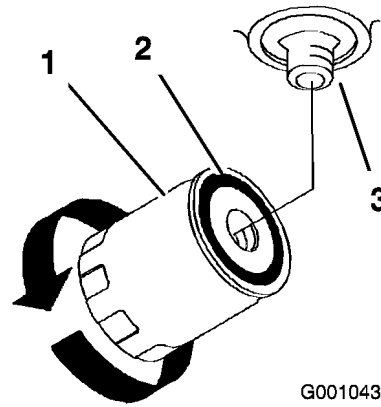

Figure 39
3. Apply a thin coat of new oil to the rubber gasket on the replacement filter (Figure 39).
4. Install replacement hydraulic filter onto the filter adapter. Turn the oil filter clockwise until the rubber gasket contacts the filter adapter, then tighten the filter an additional 1/2 turn (Figure 39).